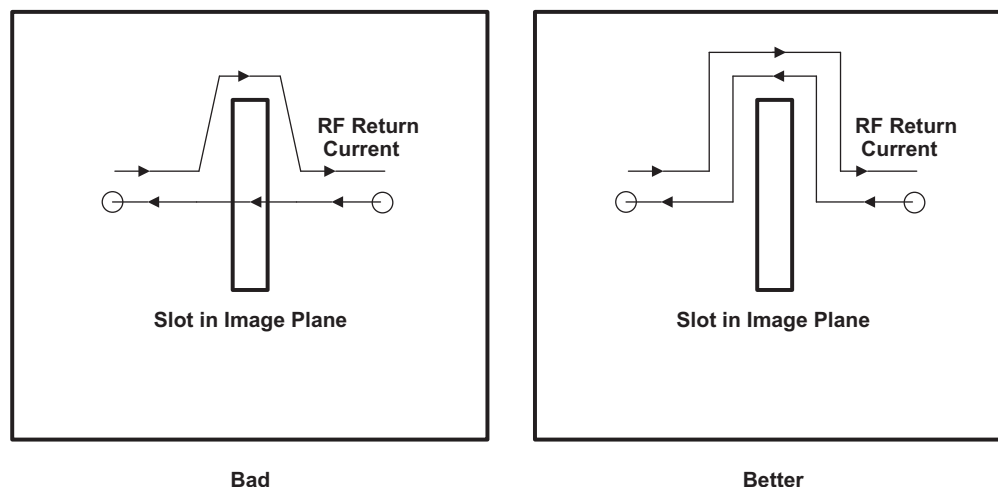

Figure 9. Do Not Violate Image Planes
- Avoid image plane violations. Traces that route over a slot in an image plane results in a possible RF return loop, as shown in Figure 9.